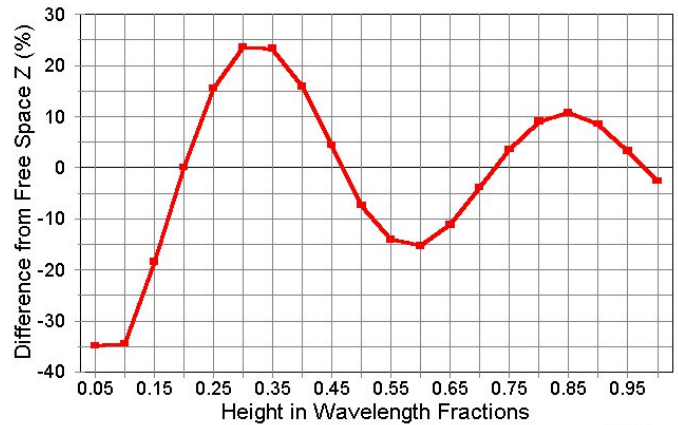

Fig.5
2. The feedpoint impedance at resonance also varies with height, going well above and well below the standard 70-ohm value as we move from 1 wavelength downward. See Figure 5. Again, your ground clutter may obscure this curve, but you can now see how the progression goes.